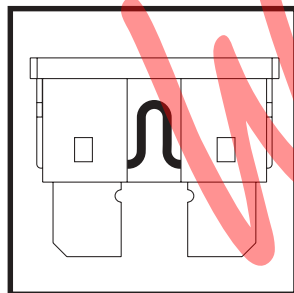

Figure 21. Working Fuse
2. Examine the fuse to be sure it is blown. See figures 21 and 21A.